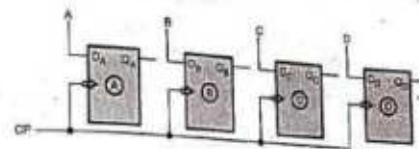

Fig. 5.8.1 Buffer register
- Fig. 5.8.1 shows the simplest register constructed with four D flip-flops. This register is also called buffer register.